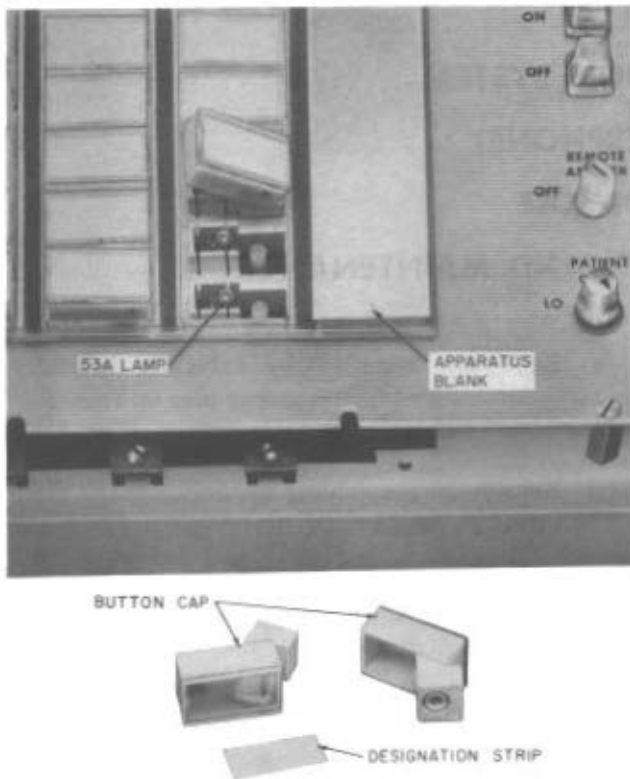

Fig. 2—Button Assembly
(c) Remove corresponding apparatus blank from faceplate by pushing up on apparatus blank until bottom edge is clear. Lift out on bottom of blank to remove. Any unused key spaces should be filled with an apparatus blank in the faceplate (Fig. 2).
(e) P-49K048 designation strips are supplied with the console when equipped with 645A or 645B keys. Each 645C or 645D key is shipped with P-23F056 designation strips. The two strips are not interchangeable. To install designation strips in the 645A or 645B keys (Fig. 2):
(1) Tilt button cap on 645A or 645B keys by pushing down on right side of key while lifting on left side (Fig. 2).
(2) On all keys, grasp white sides of button cap between thumb and forefinger directly over button plunger (right half of button). It may be necessary to partially depress buttons above and below one being removed.